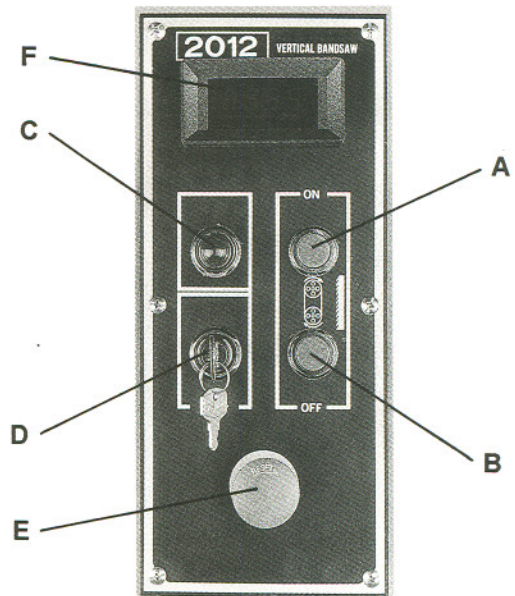

Fig. 4
**Main Motor Start Switch (A, Fig. 4)** - located on control panel. Depress to start bandsaw.
**Main Motor Stop Switch (B, Fig. 4)** - located on control panel. Depress to stop bandsaw.
**Power Indicator Light (C, Fig. 4)** - located on control panel. Indicates that power to the control panel is on.
**Key Lock Switch (D, Fig. 4)** - located on control panel. Turn to 12 o'clock position and remove key to lock out power from the control panel. Insert key and turn to the three o'clock position to turn on power to the control panel.
**Emergency Stop Switch (E, Fig. 4)** - located on the control panel. Press to stop machine. Turn 90° to reset.
**Digital Readout (F, Fig. 4)** - located on the control panel. Indicates blade speed in feet per minute: